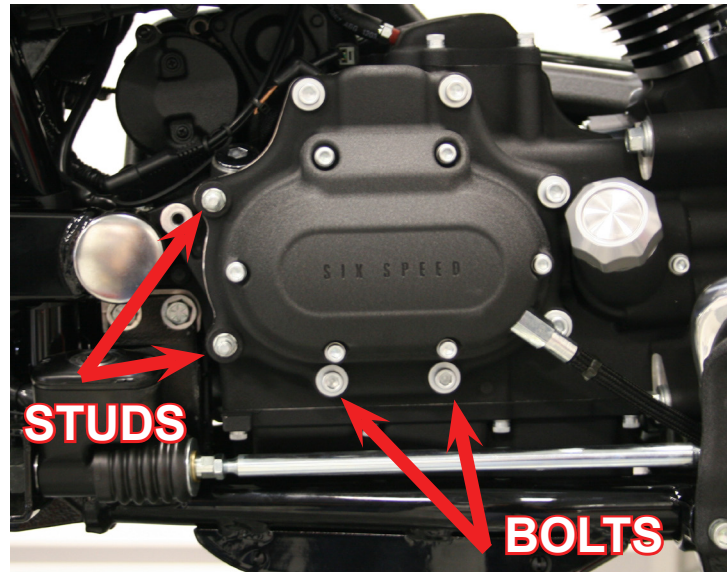

Figure 1
9. Remove the two bolts below the transmission cover. They will replace the two studs removed in step 8, refer to *(Figure 1)*.